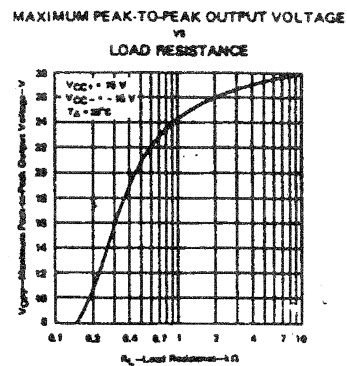

FIGURE 5
2. For operation above 25°C free air temperature, refer to Dissipation Derating Curves, Figure 5.